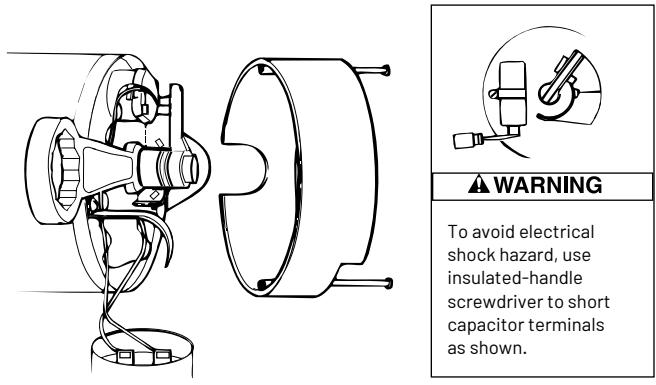

Figure 16 – Hold Shaft
4. If impeller must be replaced, loosen two machine screws and remove motor canopy (Figure 16).
5. **WARNING Capacitor voltage may be hazardous.** To discharge capacitor, hold insulated handle screwdriver **BY THE HANDLE** and short capacitor terminals together (Figure 16). Do not touch metal screwdriver blade or capacitor terminals. If in doubt, consult a qualified electrician.